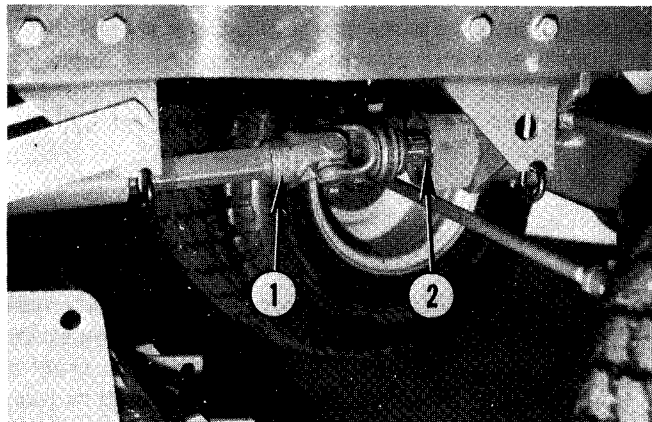

Fig. 54 — Mower Installation
7. Install PTO drive shaft on Tractor and secure with sliding lock, Fig. 54.